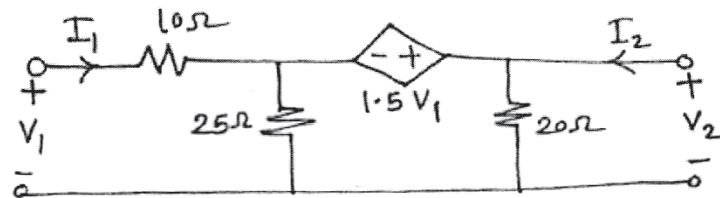

Fig. 9
b) Find Z parameters of the network shown in Fig.9. [6]